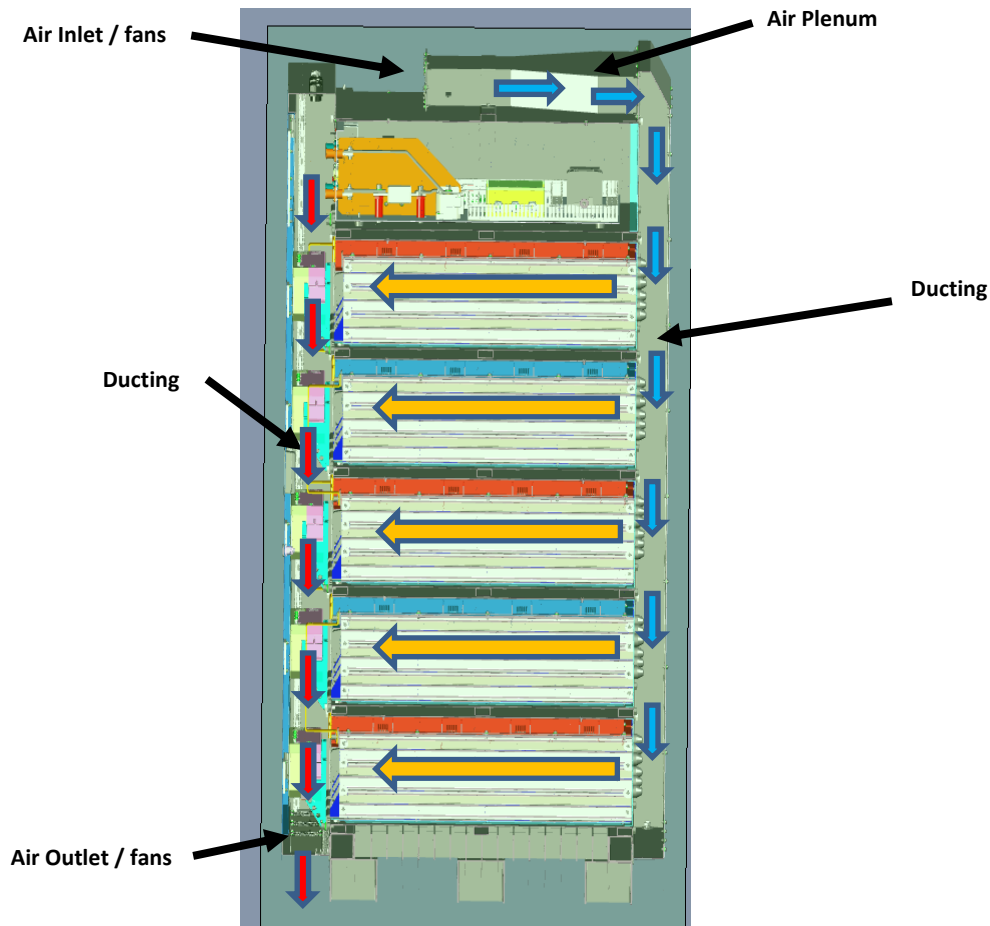

Figure 5 Stack Ventilation
- Figure 5 Stack Ventilation 8